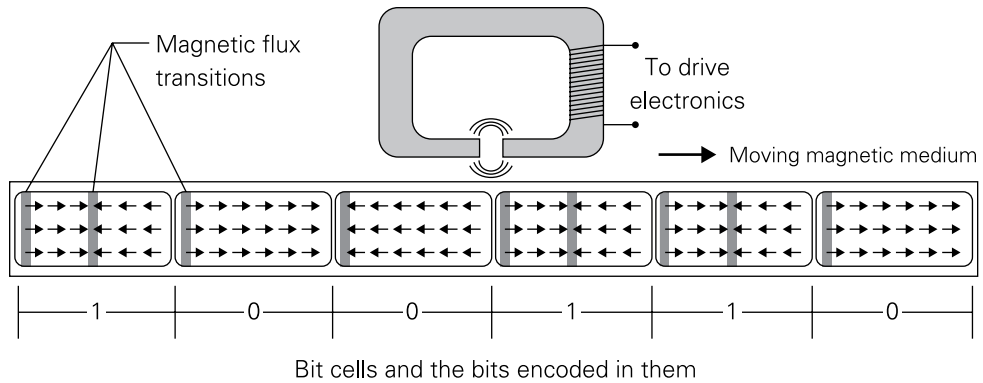

FIGURE 6-3: Magnetic recording of data bits
One of the simplest (and earliest) encoding schemes is *frequency modulation* (FM), in which the difference between a 0-bit and a 1-bit is in the frequency with which flux transitions appear on the magnetic medium, as shown in Figure 6-3. A *bit cell* is a region on the medium in which a single bit is encoded. Bit cells are all the same physical length. A bit cell with a single flux transition at the beginning is interpreted as a 0-bit. A bit cell with a flux transition at the beginning and another in the middle is interpreted as a 1-bit.
Pay close attention to the direction of the arrows in Figure 6-3. After a flux transition, the magnetic orientation of the medium doesn't change until the next flux transition. The actual direction of magnetic orientation doesn't matter, as you can see if you compare the direction shown in the several regions expressing 0-bits. What matters is how many orientation changes (that is, flux reversals) occur per bit cell.
The mechanism shown in Figure 6-3 is called *longitudinal recording*. This means that the magnetic domains in the medium are magnetised in a direction parallel to the moving magnetic medium. Key to longitudinal recording is the position of the read/write head over the moving medium. The two poles of the head and the gap between them are parallel to the medium, resulting in parallel orientation of the magnetic domains within the grains.